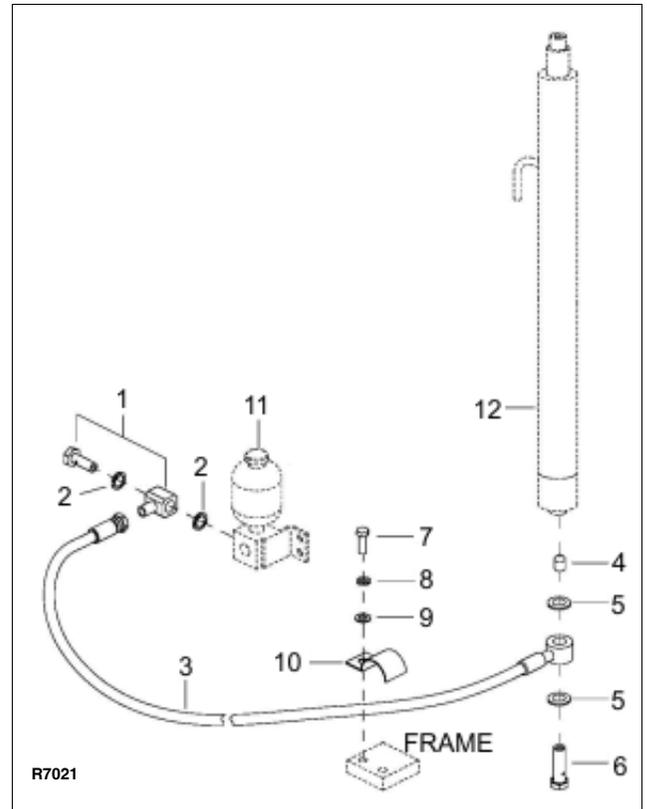

Figure 8-2 Hydraulic Lift (Telescopic)
4. **Telescopic vehicles:** Refer to Figure 8-1 and Figure 8-2 and remove leaking line or fitting and replace it with a new line or fitting.
7. Remove bolt (6, Figure 8-2), two washers (5), relief valve (4) and disconnect the hose (3) from the bottom of lift cylinder.
3. Install ram head (12) on top of cylinder (19).
4. Lift inner mast (11) and remove the blocking.
5. Lower inner mast (11) onto cylinder (19) and secure with screw (8), lock washer (9) and flat washer (10).
7. Install relief valve (4, Figure 8-2) and reconnect hose (3) with two washers (5) and bolt (6) to the bottom of lift cylinder.